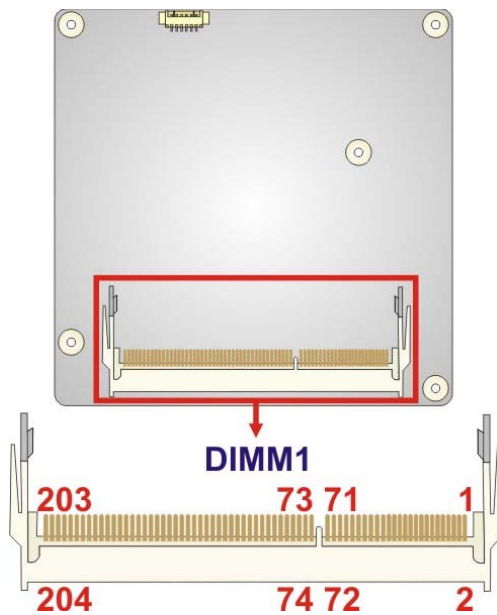

Figure 3-4: SO-DIMM Connector Location
- CN Location:** See **Figure 3-4**